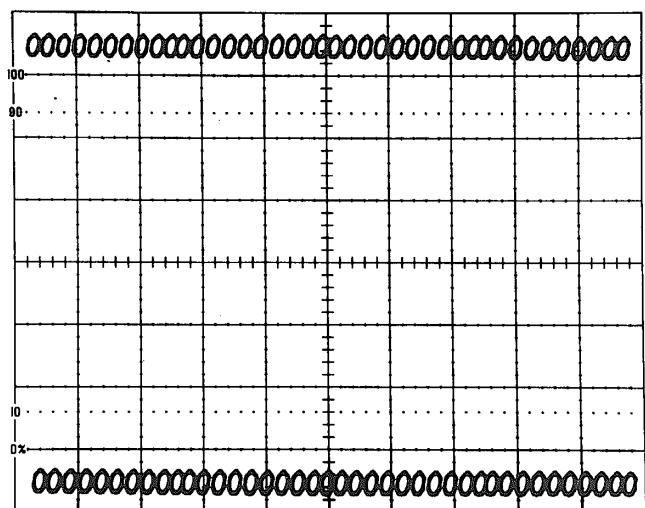

Fig. 4-3. Readout display with Q3416 removed.
- CHECK—CRT display for two rows of zeros, 40 zeros to a row with no overlap. The two rows of zeros should be located vertically in the middle of the top and bottom divisions of the graticule (see Fig. 4-3).